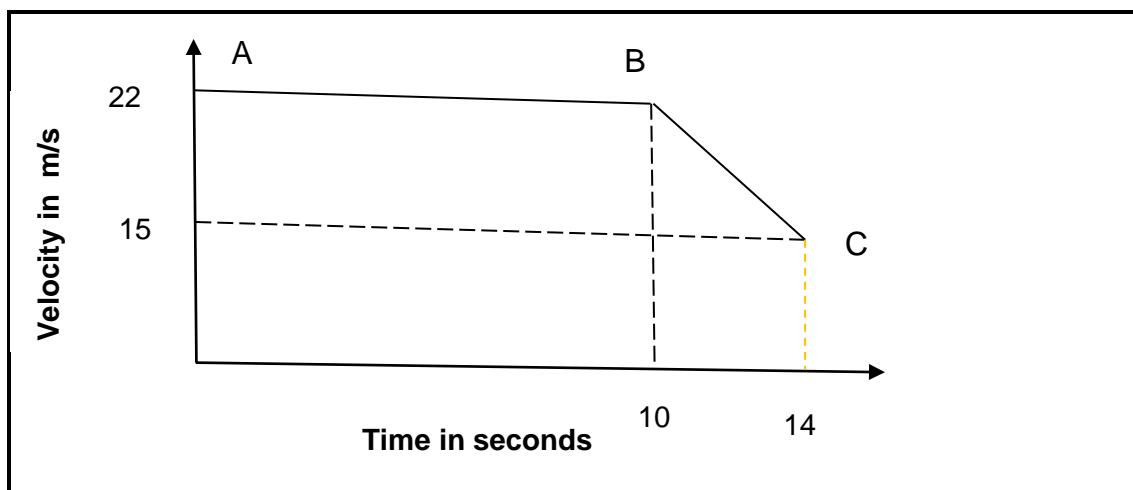

FIGURE 1
1.2 FIGURE 1 below contains a graph representing the velocity of a vehicle with respect to time as the vehicle moves past A, B and C. Movement takes place in a straight line.